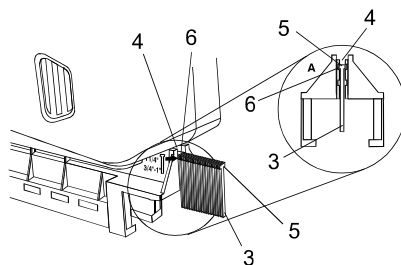

Fig. 5
NOTE: There are two nail head slots for the nail strips (see Fig. 5 & 6). Use the upper slot for 1¼" nails. Use the lower slot for ¾ & 1" nails. Refer to the nail sizes stamped on the magazine.
4. Slide nail strip (3) into the center slot of the magazine channel (4) with the "T" heads (5) inserted in the **UPPER** nail head slot (6) (see Fig. 5).